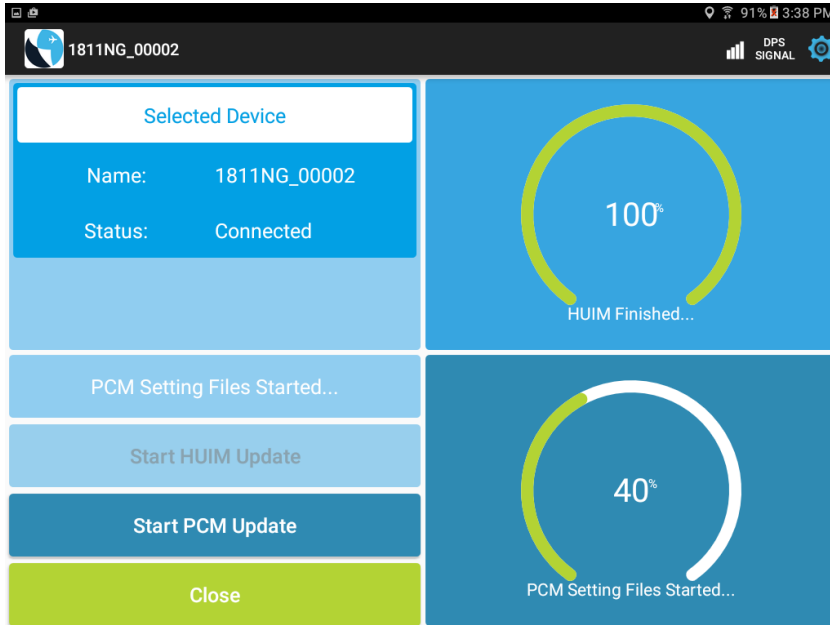

Figure E. 6 PCM Update Progress Screen
- f) Touch “Start PCM Update” panel. Update takes about 2 minutes. Wait until progress indicator reaches 100% (Fig. E. 6).